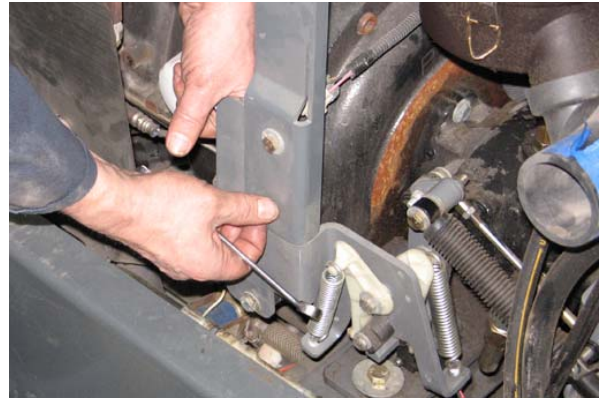

FIG. 16
23. Reinstall the air cleaner assembly / air cleaner assembly bracket onto the machine. (Fig. 16)